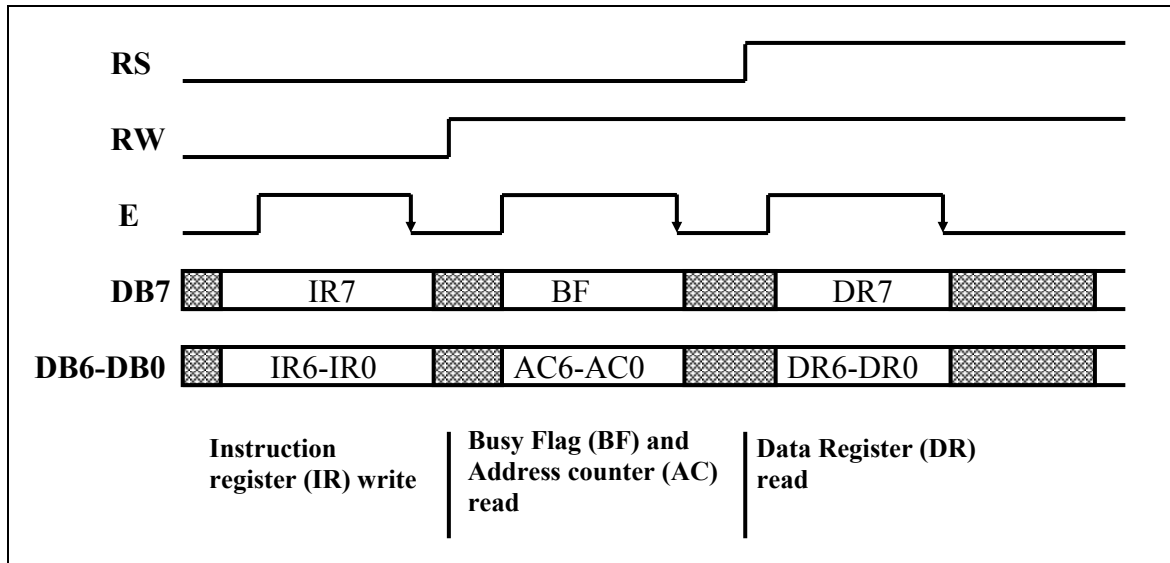

Figure 2. Example of 8-bit interface operation.
- In 8-bit mode (DL=1) all 8 bits are used. Data is strobed by E signal. Instructions start executing at the E fall, and BF sets to "1" (see Fig.2).